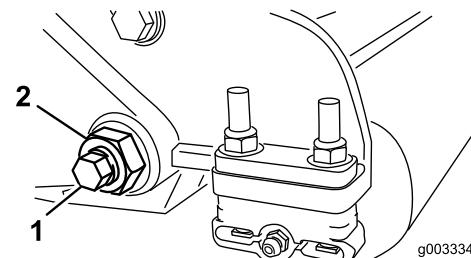
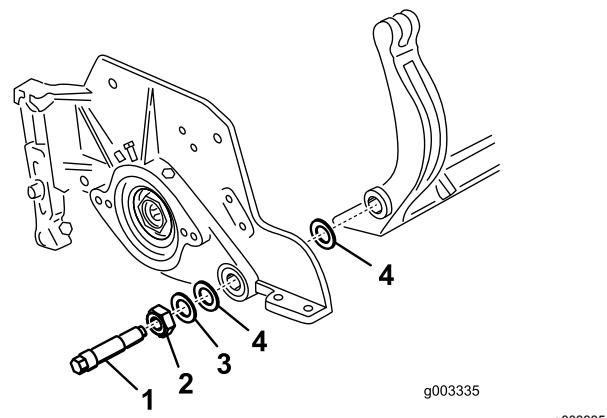

Figure 30
Figure 31
3. On each side of the machine, loosen the locknut securing the bedbar bolt (Figure 30).
4. Remove each bedbar bolt, allowing the bedbar to be pulled downward and removed from machine bolt (Figure 30). Account for 2 nylon washers and 1 stamped steel washer on each end of the bedbar (Figure 31).
4. Place a steel washer outside each of the nylon washers (Figure 31).
Torque the bedbar bolts to 27 to 36 N·m (240 to 320 in-lb). Tighten the locknuts until the outside steel washer stops rotating and end play is removed, but do not overtighten or deflect the side plates. The washers on the inside may have a gap (Figure 31).